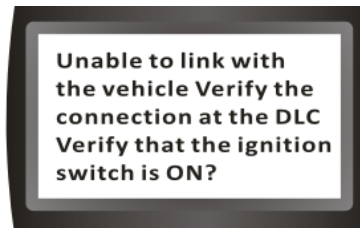

Figure 22
9. If the Scan tool fails to link up with the vehicle's computer, it will show a message as displayed on the LCD screen: (Figure 22)